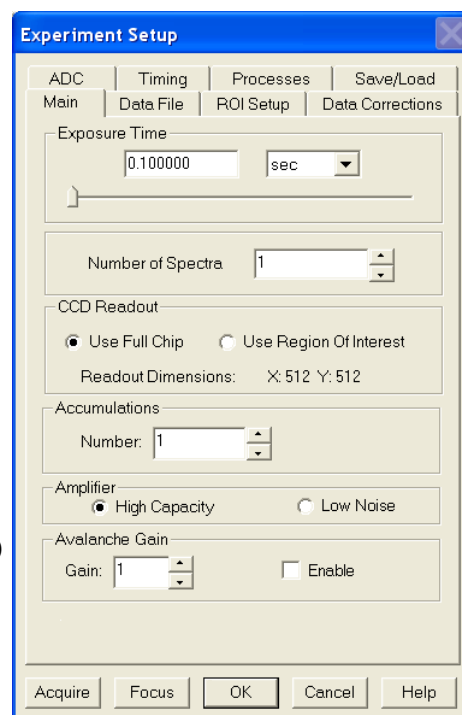

Figure 29. Experiment Setup: Main tab
1. Open the **Experiment Setup** dialog (Figure 29) from the **Acquisition** menu or by clicking on the  button on the **Custom Toolbar**.